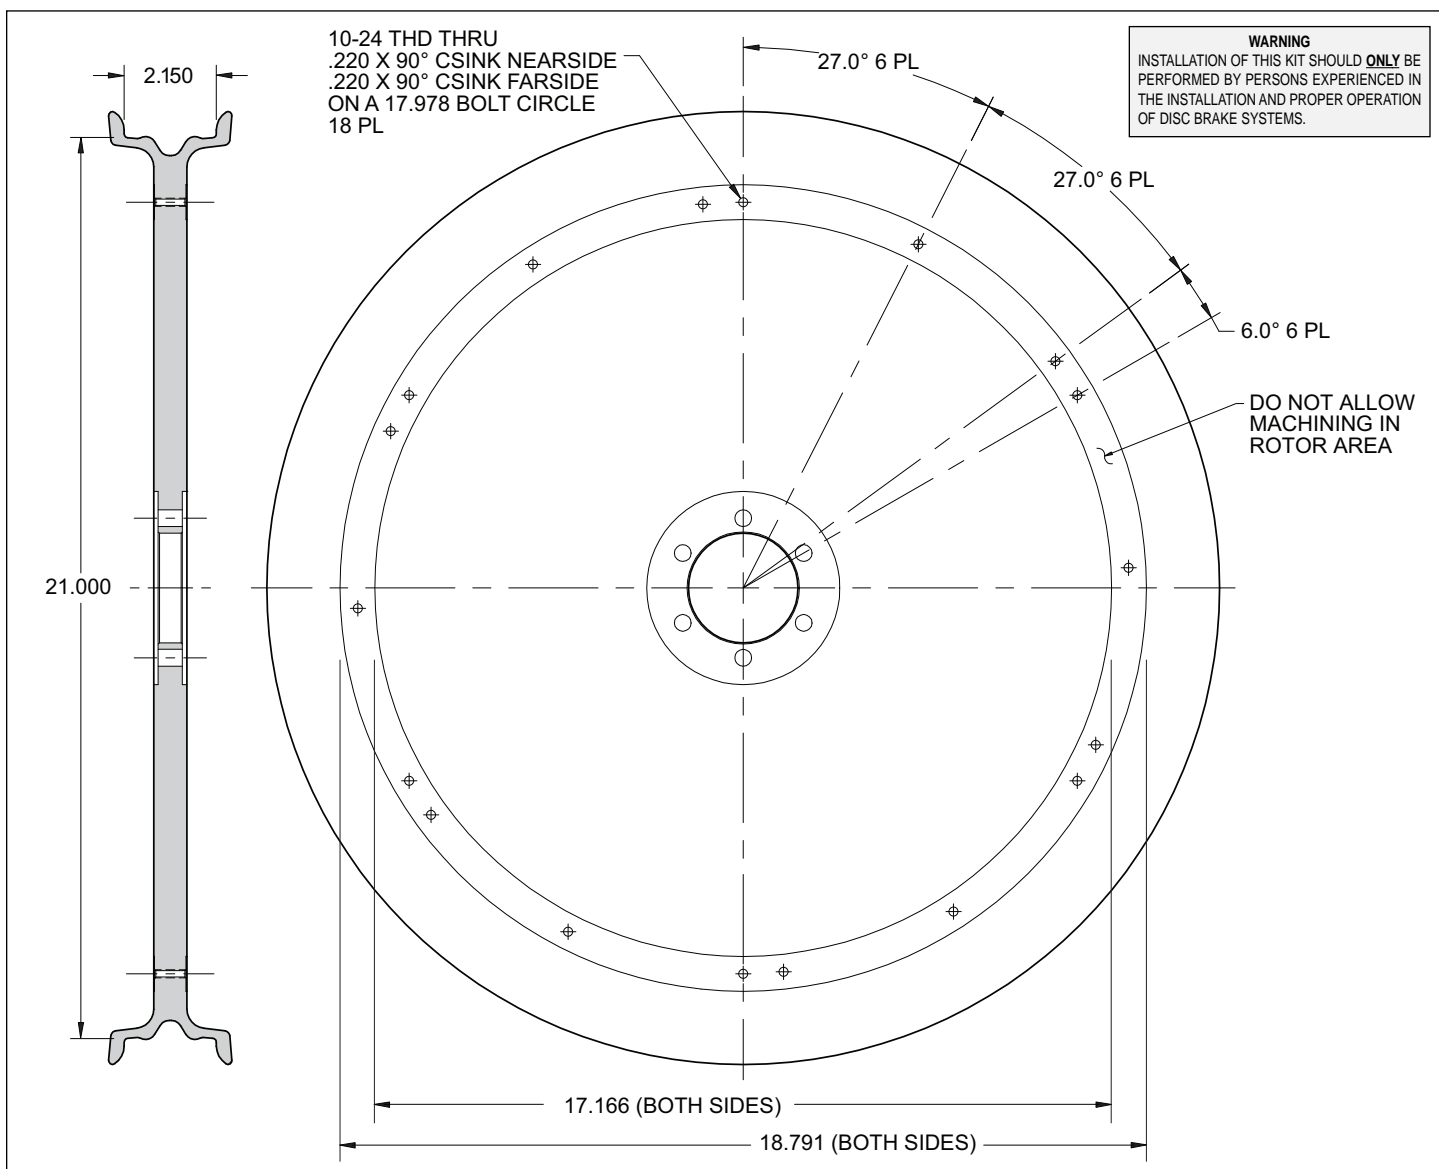
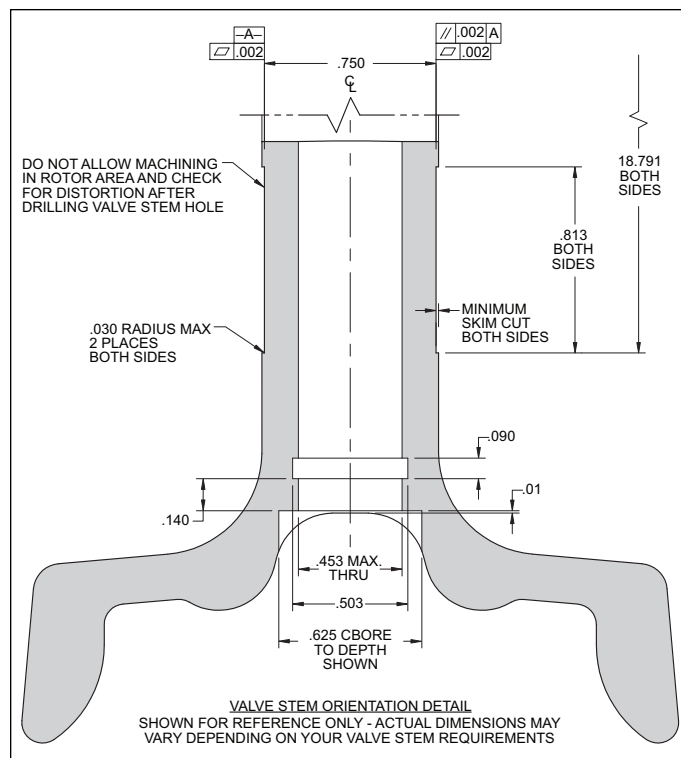
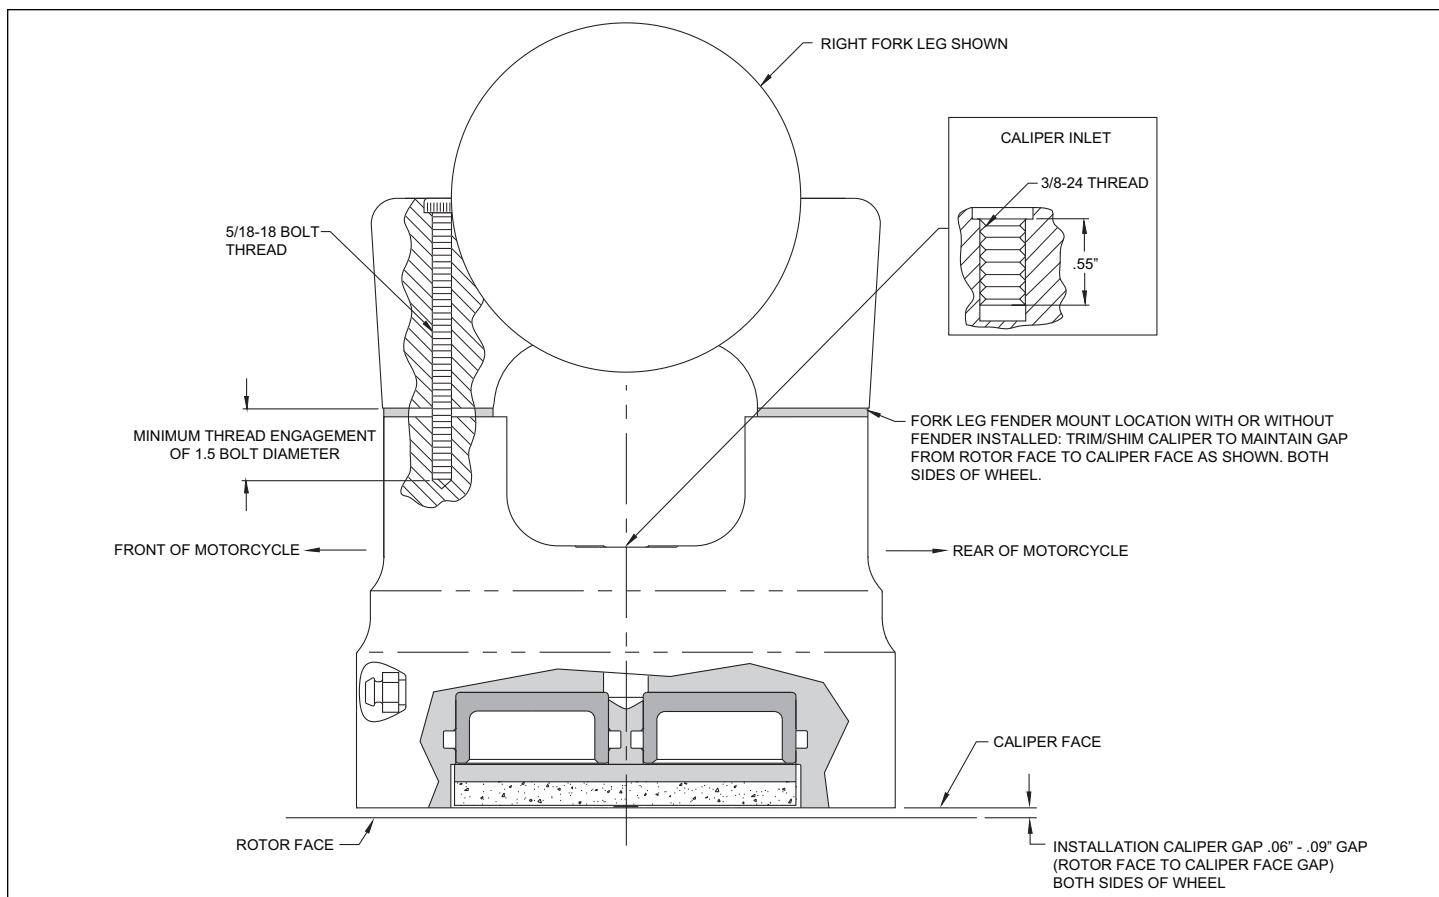

Figure 1. Rotor Segment Drilling Pattern
Figure 2. Wheel Machining / Valve Stem Detail
Figure 4. Caliper Installation
• The dimensions as outlined in figure 1 are for the installation of Wilwood rotor segments (2). These segments are specifically designed for use with a 21.00" by 2.15" machined wheel. After you have machined your wheel per figure 2, being careful not to allow machining in the rotor area other than for the 10-24 threaded holes. Also, remembering to drill for your valve stem. Figure 2 valve stem detail is for reference only. Actual dimensions may vary depending on your valve stem requirements. Wilwood does not supply a valve stem. Valve stem must be oriented on the wheel centerline as shown. Maximum through hole allowable is .453".
• Proceed to prepare the wheel for the installation of the rotor segments. First drill 18 10-24 threaded through holes on both sides of the wheel per the dimensional characteristics of figure 1.
• Install the rotor segments (2) to the machined wheel using bolts (3). Before installation, apply red *Loctite*® 271 to the bolt threads and torque bolts to 40-50 **in-lbs.** being sure bolt heads are completely flush or below rotor segment surface.
• The caliper (1) mounts to the front leg support as shown in figure 4. The caliper mounting installation holes are tapped for 5/16-18 bolt threads. Customer supplies their own caliper mounting bolts. These bolts are then torqued to applicable specifications depending upon the grade bolt utilized. The use of blue *Loctite*® is solely at the discretion of the installer.
• **NOTE:** The Stealth caliper inlet fitting is a 3/8-24 thread. A banjo bolt fitting is used at the caliper with sealing (crush) washers. Banjo bolt thread engagement should not shorter than .375" or too long to cause it to bottom out at the end of the threads (see figure 4). Use enough steel braided line to allow for full suspension travel and turning radius, lock to lock. **Carefully route lines to prevent contact with moving suspension, brake or wheel components.** It is the installer's responsibility to properly route and ensure adequate clearance and retention for brake hose components..